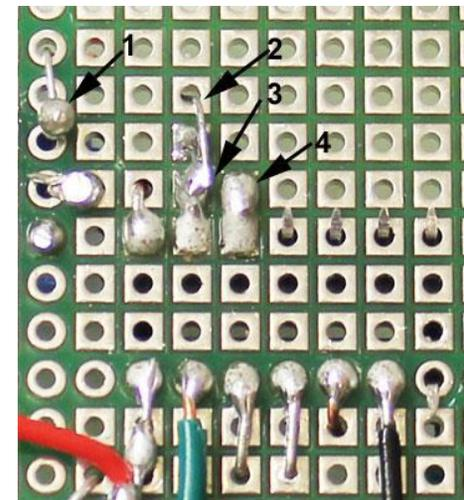

Figure 12
31. Turn the board over. The resistor wires are marked by arrows 1 and 2, Figure 12. Bend the wire at arrow 1 around the top wire of R8, trim excess and solder the connection.
33. Turn board over and bend wires of U-shape over to touch pins 2 and 3. Then solder the wire ends to the pins (Figure 12, arrows 3 and 4).
34. Bend the resistor wire marked with arrow 2 in Figure 12 so that it touches the soldered connection to pin 2, trim excess wire and solder in place as seen in Figure 12 (arrow 3).